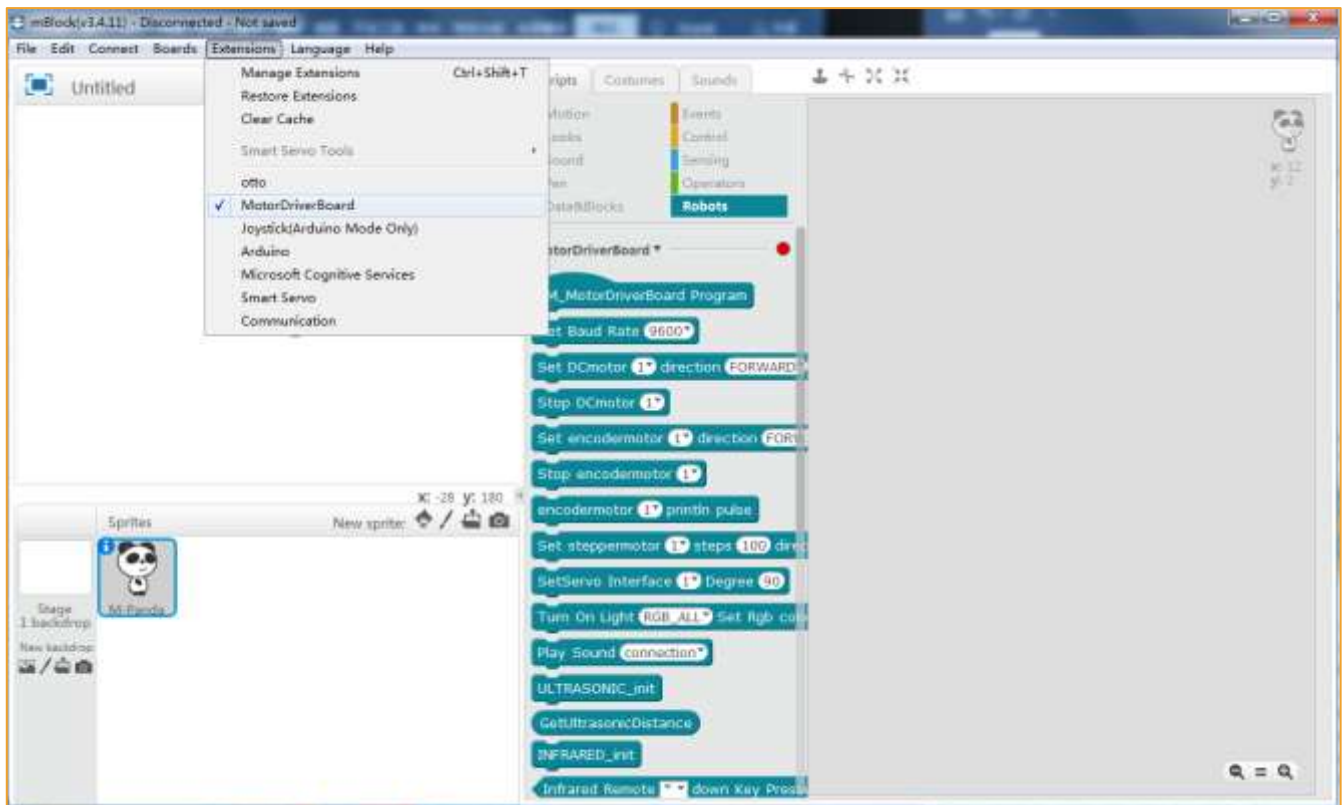

Figure 2-6
- 1) Firstly, drag the “EM_MotorDriverBoard main program” of the building block area to the script area with the mouse, and then drag “Set serial port baud rate 9600” to the “EM_MotorDriverBoard main program” building block, as shown in Figure 2-6.